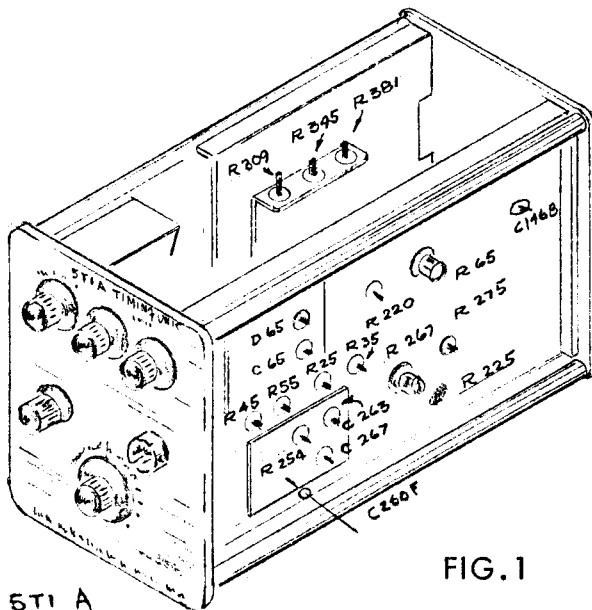

FIG. 1
- b) Connect X10 probe from test scope (0.05 v and 2  $\mu$ sec) to junction of C65 and D65 (see Fig. 1).